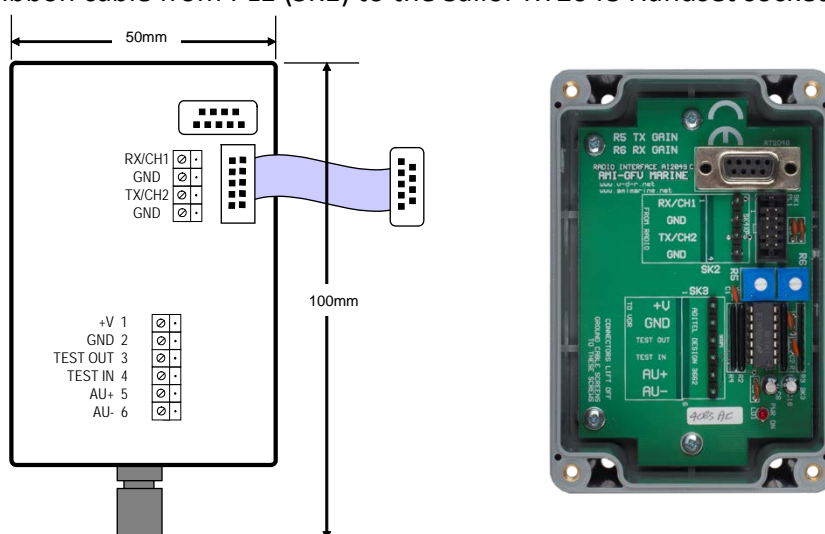

Figure 6.
If the VHF unit has separate TX and RX channels this can be connected via AMI's KW973 VHF interface which will combine the 2 audio signals into 1 (see Figure 8). There is also the facility in the KW973 VHF interface to balance the volume levels (see Figure 6).
Turn the gain on both the TX and RX (see Figure 6). fully counter clockwise (CCW), adjust each gain level clockwise (CW) 25% of the full movement. Remove the SD card and replay the recording. Adjust until a good clear audio is achieved.